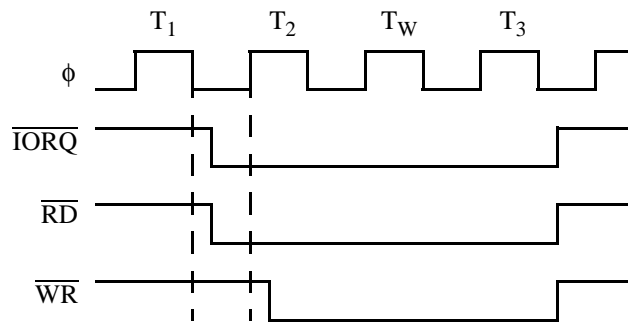

Figure 11. I/O READ and WRITE Cycles with  $\overline{\text{IOC}} = 1$
**IOC**—This bit controls the timing of the  $\overline{\text{IORQ}}$  and  $\overline{\text{RD}}$  signals. It is set to 1 by RESET. When  $\overline{\text{IOC}} = 1$ , the  $\overline{\text{IORQ}}$  and  $\overline{\text{RD}}$  signals function the same as the Z64180 (Figure 11).